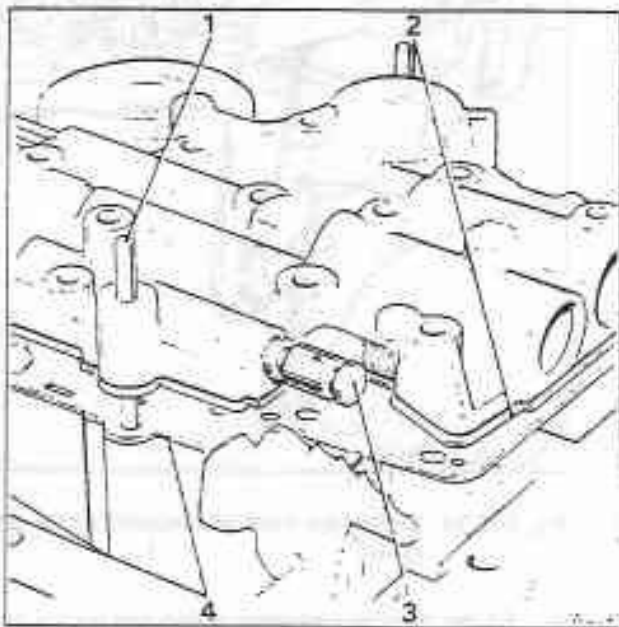

Fig. T12-15 Fitting the control valve unit
3. Using two guide pins screwed into the casing, fit the control valve unit into position (see fig. T12-15), with a new valve body/spacer plate gasket.